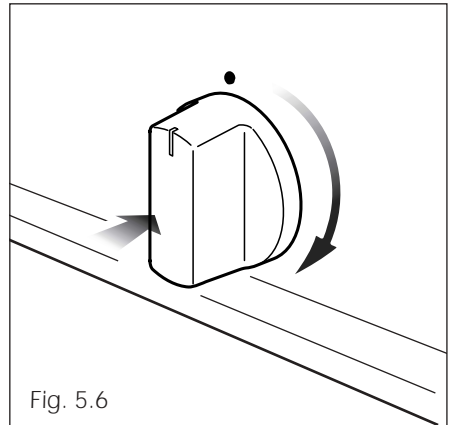

Fig. 5.6
- 2) Lightly press and turn the temperature knob clockwise (fig. 5.6) to the  position (fig. 5.1).